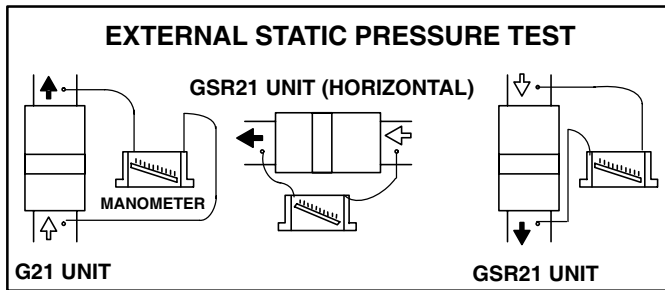

FIGURE 62
- 1 - Measure tap locations as shown in figure 62.